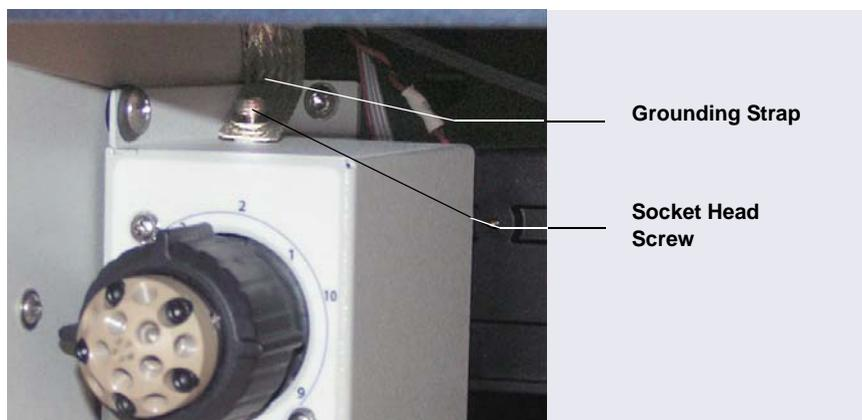

Figure C-10. *Grounding Strap Attached to Valve Mounting Bracket*
4. Using a 3 mm Allen wrench, remove the screw from the grounding strap connected to the top of the valve with mounting bracket (see Figure C-10).